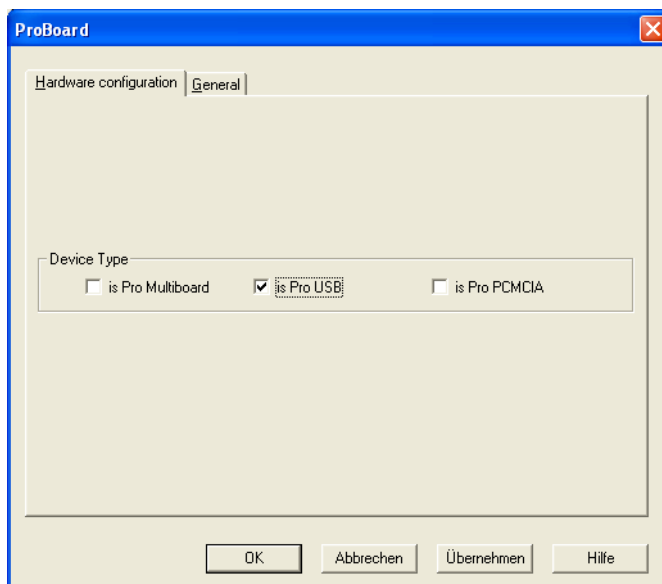

Figure 33. is Pro Multiserver Properties
5. Right-click the Module_0 and select **Properties**. A screen similar to the one shown in Figure 33 is displayed.